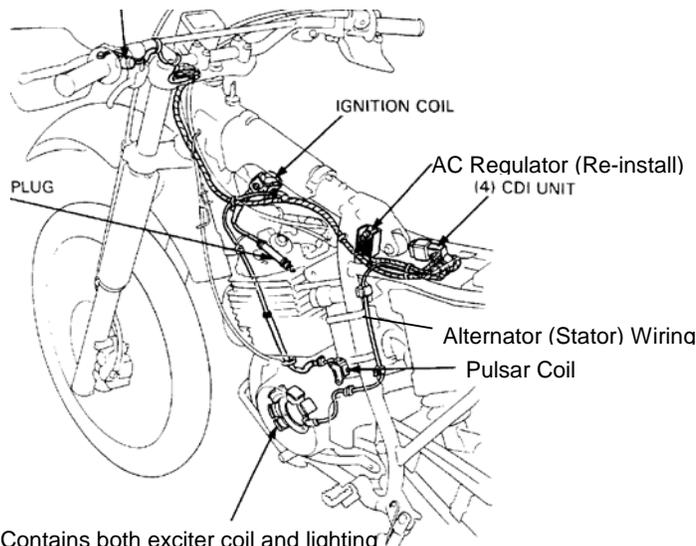

Figure 1:
2. Reinstall the stock AC Regulator that was removed when installing the Baja Designs Dual Sport Kit. It installs on the left side of the upper shock mount as shown in Figure 1.